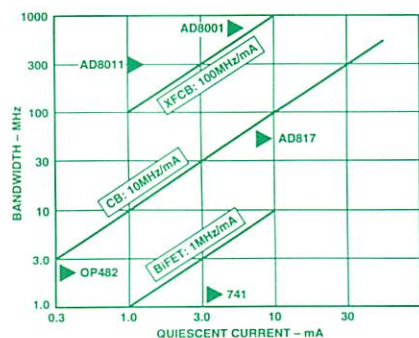

Figure 10. Bandwidth vs. quiescent supply current for IC op amps using various processing technologies.
Figure 10 shows the reference slopes depicting the typical relationship between bandwidth and quiescent current for Analog Devices BiFET, complementary-bipolar (CB) and eXtra-fast complementary-bipolar (XFCB) processes, with representative product types. Note that the AD8011 is capable of 300-MHz bandwidth, while drawing a quiescent current of 1.0 mA maximum from a single +5-V supply (and it generates only 2 nV/√Hz of noise at 10 kHz).